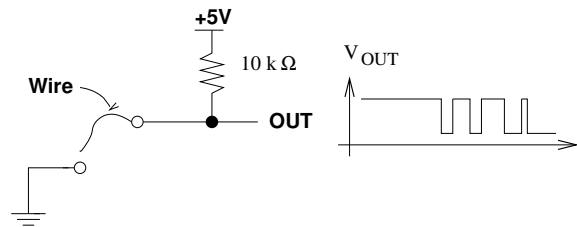

Figure 1: A simple switch
1. Build the switch of Figure 1. For now, just use a wire as the switch. Plug the wire into GND to bring OUT (the switch output) low, alternatively, unplug it to bring OUT high.